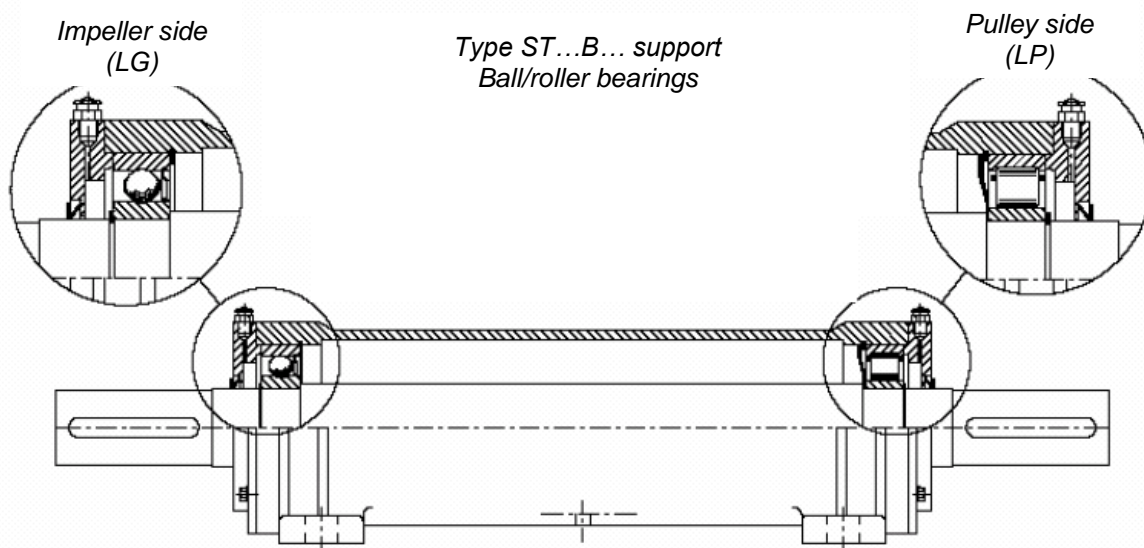

Fig. 10.7 ST...B... one-piece support with radial ball bearings on impeller side and roller bearings on transmission side
- Type ST...B... support with rigid roller bearing on transmission side (Fig. 10.7). The side with the roller bearing is punched with "CR" on the shaft.
Take care to fit the grease sealing ring in the right direction (Fig. 10.7 and Photo 60).